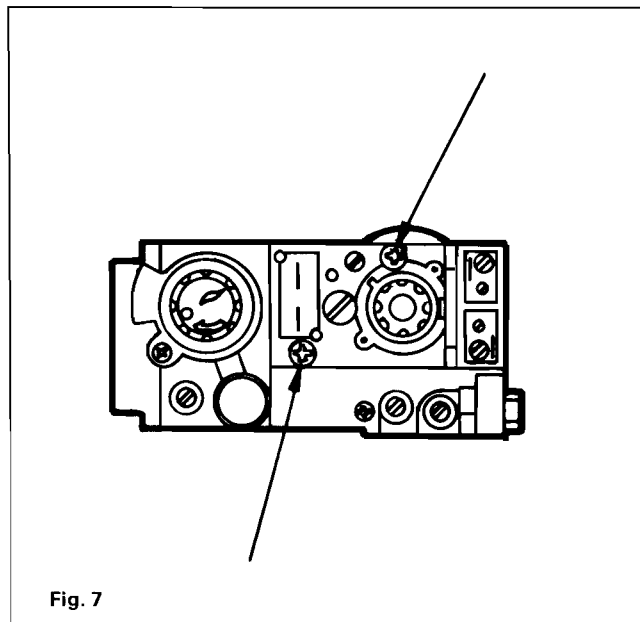

Fig. 7
- h) Undo the two screws shown in Fig. 7.